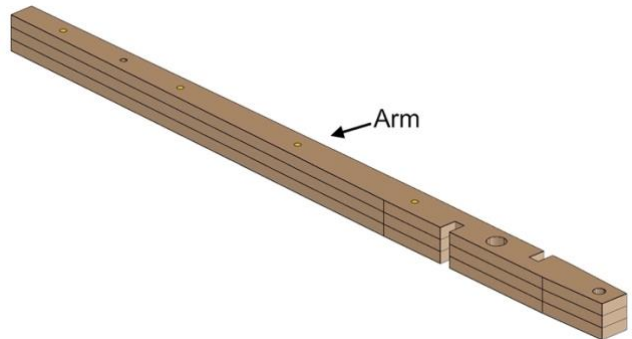

Fig. 62
- Fig. 62 shows the completed process.